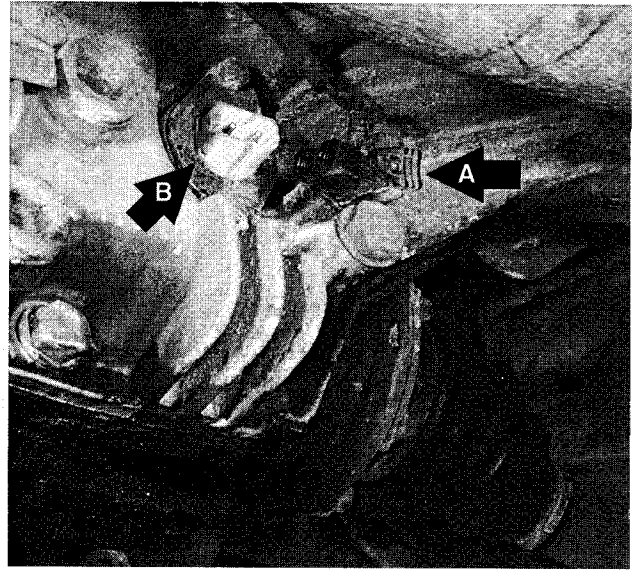

Fig. 6. Vehicle speed sender harness connector (A) and sender (B).
1. Locate vehicle speed sender electrical connector at back of differential. Depress retaining levers on connector and remove. See Fig. 6.